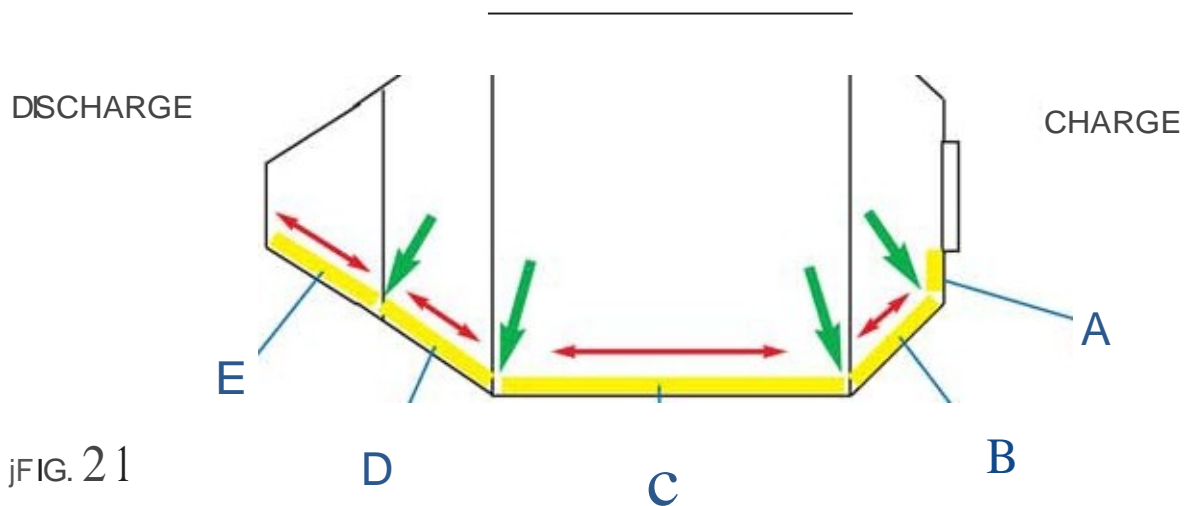

FIG. 2
Liner sections are installed beginning at the charge end of the drum and ending at the discharge end. Before installing, it is recommended that (1) of each section (A,B,C,D & E) first be positioned on the drum bottom as shown in FIG. 2. Ideally the gaps between the sections should be 1/8" or less. If there are gaps greater than 1/8" in the seams of panels A through E, adjust the position of the panels as to even-out the disparity in the gaps. Note that the panel seams may not concisely match the drum weld seams. Tack weld the panels in place (see FIG. 3) welding only 4 to 5 weld plates on each liner section.